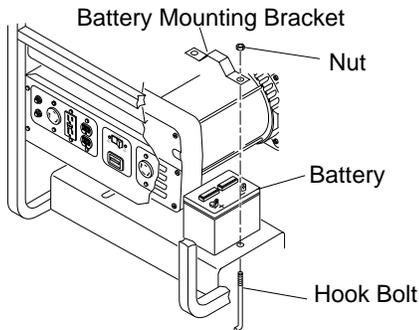

Figure 12 - Battery Hold-Down System (Model RGH7500AIE Shown)
1. Secure battery to generator by battery hold-down system. This system consists of the battery mounting bracket, hook bolts, and nut (see Figure 12).